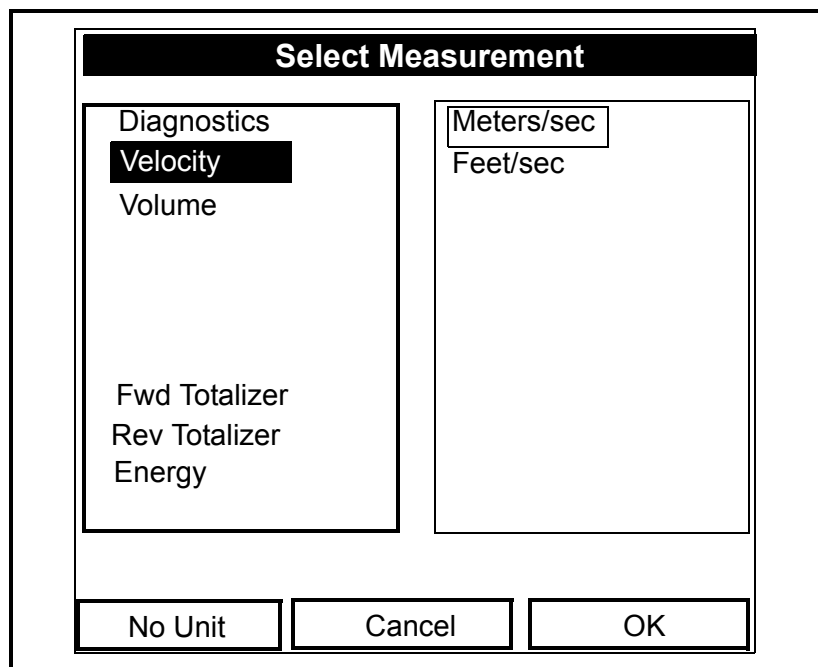

Figure 5-7: The Select Measurement Window
3. Scroll to the first table cell and press [ENTER]. The *Select Measurement* window opens (see Figure 5-7 below).